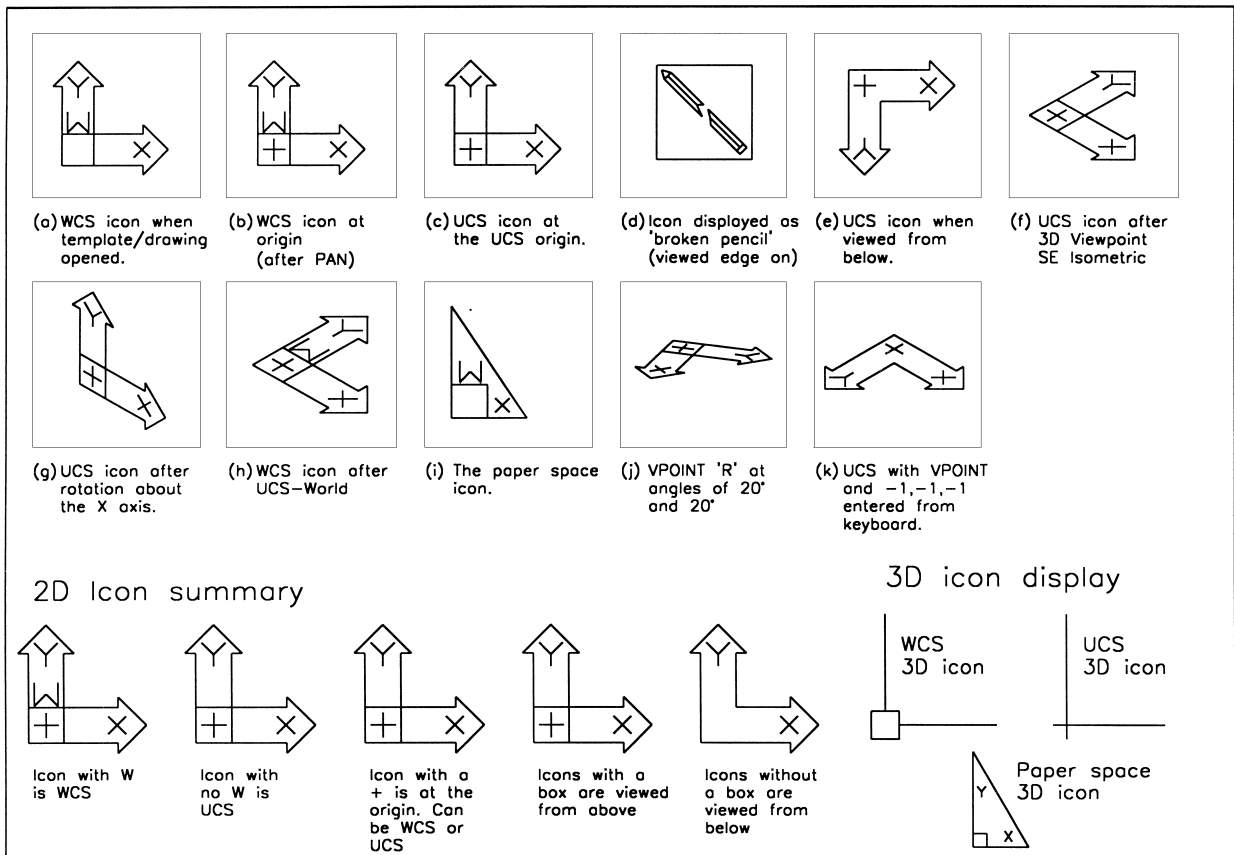

Figure 3.5 Icon exercise.
- 1 Close all existing drawings then open your 3DSTDA3 template file. Refer to Fig. 3.5
Figure 3.5 displays a summary of the various 2D icons which can be displayed on the screen. These are:
d) the WCS and UCS icons with a 3D style setting are displayed in Fig. 3.5